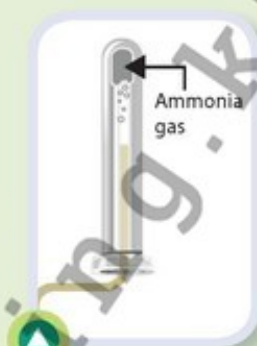

Figure 7.22
- Continue heating and then hold another boiling tube inverted over the delivery tube as shown in **Figure 7.22**.